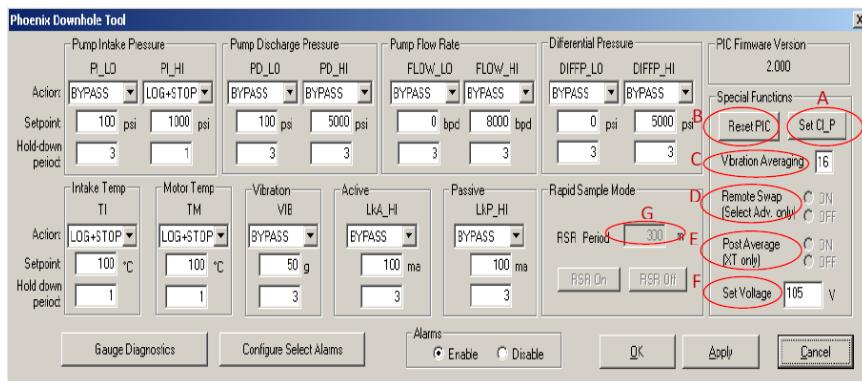
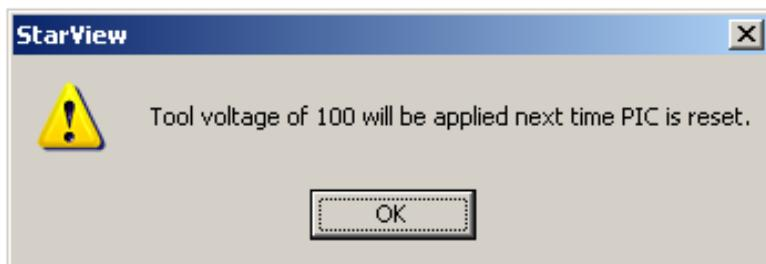

Figure 6-64: Phoenix Downhole Tool Window
Figure 6-65: Set Voltage Warning Window
3. On StarView, click **Configure->Alarms** (or double click **PHOENIX DHT** panel) to open the Phoenix Downhole Tool window shown in Figure 6-64.
Click **Set CL_P** button (item A in Figure 6-64) to set CLP. When CLP is not set, StarView displays CLP Not Set on PHOENIX DHT panel. If not other tool faults, StarView display will change to Tool Good after CLP is set.
Click **Reset PIC** button (item B in Figure 6-64) to reset SoloConn Phoenix card. Reset PIC is necessary when user wants to change tool voltage.
1. Click **Vibration Averaging** button (item C in Figure 6-64) to set how often vibration is averaged.
Click **Remote Swap** button (item D in Figure 6-64) to indicate whether 2 remotes are swapped or not during installation.
Click **Post Average** button (item E in Figure 6-64) to turn XT smoothing algorithm on or off. The default is on, so XT parameters are smoothed before they are sent to client system or displayed on StarView. The purpose of this function is to avoid spiky XT parameters.
Click **Set Voltage** button (item F in Figure 6-64) to change SoloConn Phoenix output voltage for downhole tool. The default is 105 volts. To change it, input the desired voltage in the box next to the button then click **Apply**. A message window pops up as shown in Figure 6-65 below.
1. Set the time in the box (item G in Figure 6-64) next to RSR Period